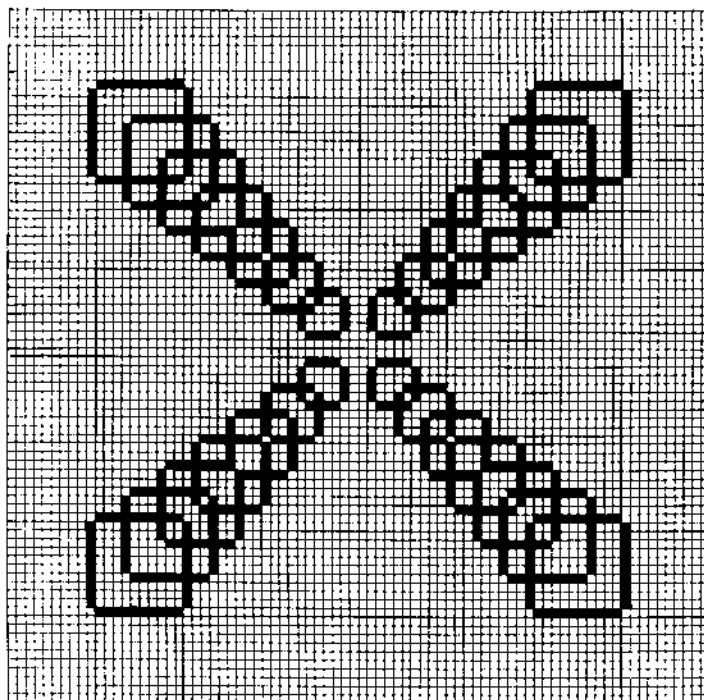

FIGURE 2
designs produced. I particularly liked one concept which was a line of overlapping blocks increasing in size. I found it exciting to vary the number, the positions and to play one line of blocks upon another (Fig. 2). After trying a variation of the design in a large coiled hassock (Photo 2), I liked the dramatic effect produced by using very dark brown on an off-white background, and I wanted to try the same design idea in something that would be primarily tapestry woven. I decided on a chaise or floor lounge cushion, using the same materials as those in the hassock (Photo 1).
2. This coiled storage hassock is ornamented with a part of the design variation from Figure 2 using Berber wools.
Inspired by Peter Collingwood's shaft-switching device which uses two interlocking loops, Jane Busse developed her own system using one single longer loop. The two strings *a* and *b* mentioned previously, are not closed into loops but are replaced by one continuous string (as if *a* and *b* were tied end on end), which follows the path of *a*, then of *b* before it is tied into a closed loop with two bouts (Fig. 2). Bout *a* is tightened by pushing a tightly wrapped piece of wool yarn *c* close to the top of frame I. The warp end then acts as if it were threaded on shaft I. Bout *b* is tightened by sliding the wrapped yarn *c* close to the top of frame II. The warp end acts now as if it were threaded on shaft II.